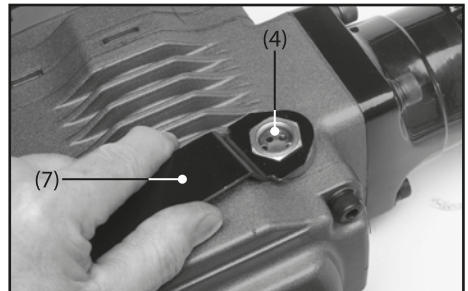

FIG.3
- FIGS. 3 & 4
Remove sight glass window (4) with the supplied spanner (7), making sure not to damage or lose the gasket, Fig.3.